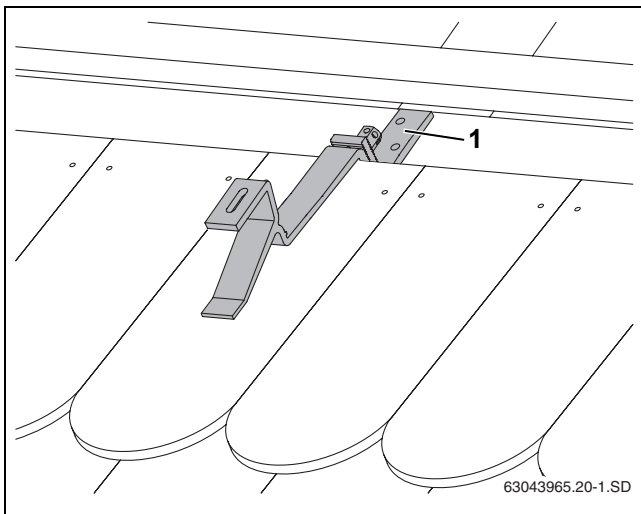

Fig. 17 Assembled roof hook
- ▶ Push down the lower part of the roof hook as much as possible until it comes to rest on the rafter or boards/planks (Fig. 17, [1]).